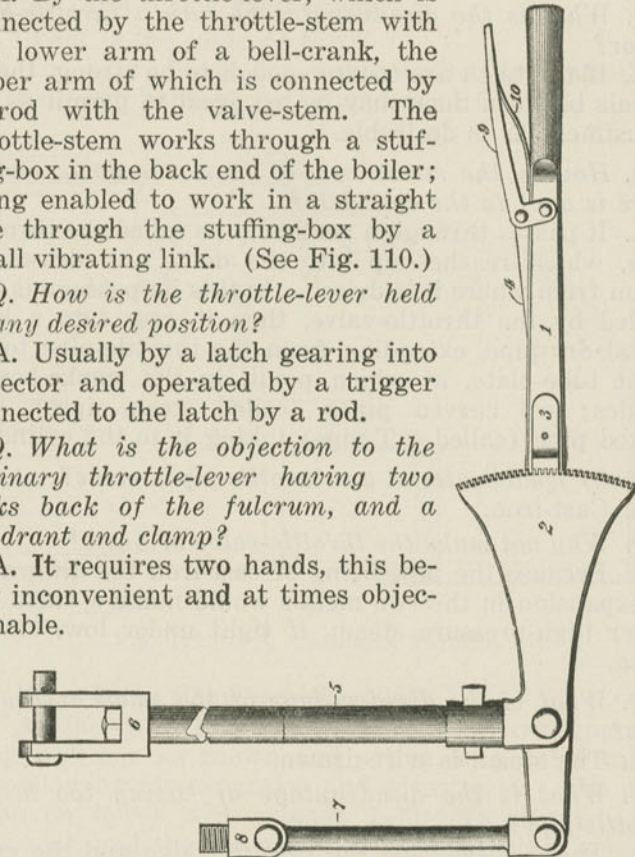

Fig. 110. Throttle Work.
A. By the throttle-lever, which is connected by the throttle-stem with the lower arm of a bell-crank, the upper arm of which is connected by a rod with the valve-stem. The throttle-stem works through a stuffing-box in the back end of the boiler; being enabled to work in a straight line through the stuffing-box by a small vibrating link. (See Fig. 110.)
A. A notched sector or quadrant such as used with the reverse-lever, but with notches of saw-tooth style so as to permit the throttle to be very quickly closed and prevent it from being jarred open. (See Fig. 110.)